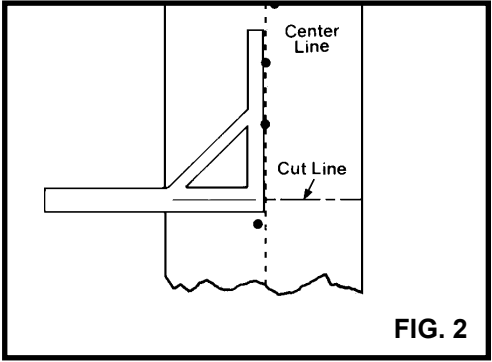

FIG. 2
- c. Using either a steel rule or a chalk line, mark the average center line through the points measured in Step 2 (Fig. 2).
- d. Using a square, draw a line perpendicular to the average center line across the belt width (Fig. 2).